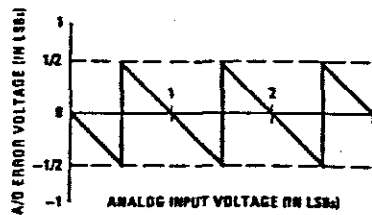

FIGURE 6. Error Plot of a Perfect A/D Showing Effects of Quantization Error
7.280 VDC. These voltage values represent the center values of a perfect A/D converter. The input voltage has to change by  $\pm 1/2$  LSB ( $\pm 20$  mV), the "quantization uncertainty" of an A/D, to obtain an output digital code change. The effects of this quantization error have to be accounted for in the interpretation of the test results. A plot of this natural error source is shown in Figure 6 where, for clarity, both the analog input voltage and the error voltage are normalized to LSBs.